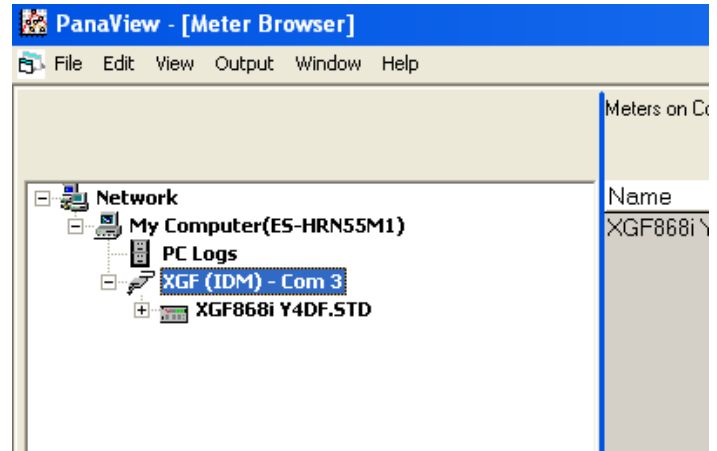
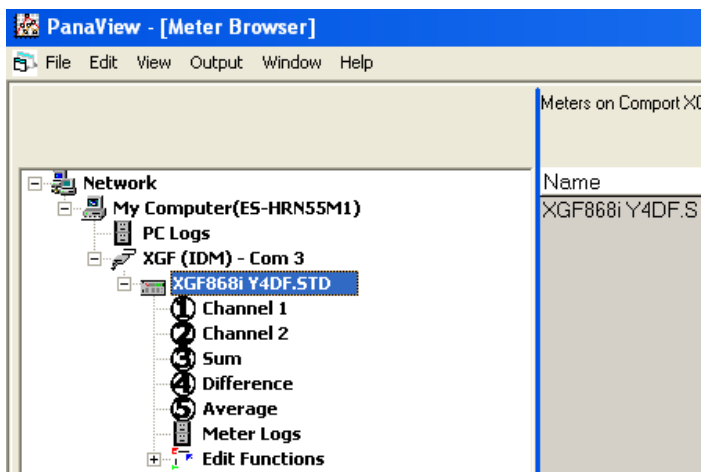

Figure 37: Updated network tree
Figure 39: Meter tree with edit functions option
If the initialization is successful, the *meter browser* shows a listing similar to *Figure 37* below.
1. From the meter tree in the *new meter browser* (see *Figure 37 on page 54*), click on the XGF entry. The screen now appears similar to *Figure 39* below.